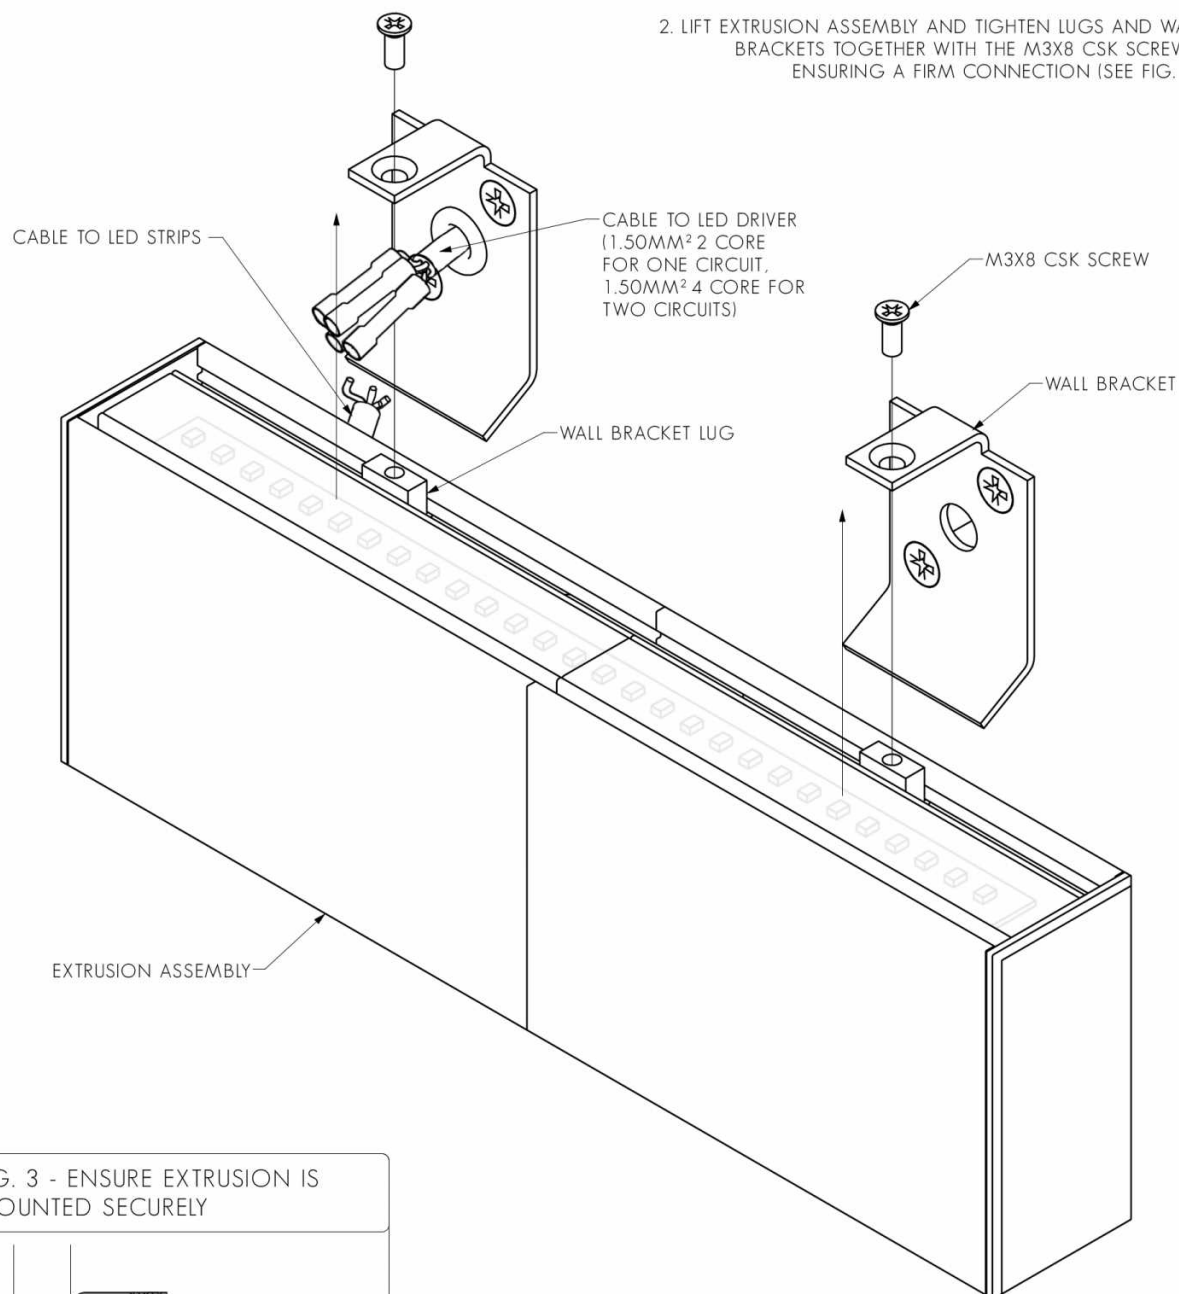

FIG. 3 - ENSURE EXTRUSION IS MOUNTED SECURELY
2. LIFT EXTRUSION ASSEMBLY AND TIGHTEN LUGS AND WALL BRACKETS TOGETHER WITH THE M3X8 CSK SCREWS, ENSURING A FIRM CONNECTION (SEE FIG. 3).